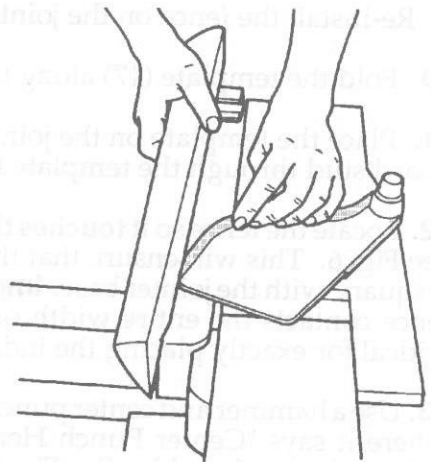

Fig. 1
2. Remove the fence from the jointer, and as you remove the fence, hold the guard to prevent its spring from whipping the guard around uncontrolled. See Fig. 1.